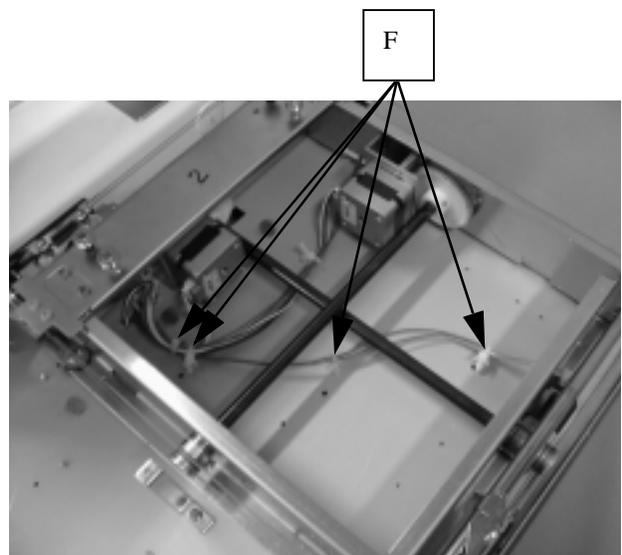

FIGURE 15-6
7. Pass the removed connectors under the base and remove clip band(F). Fig.15-6.